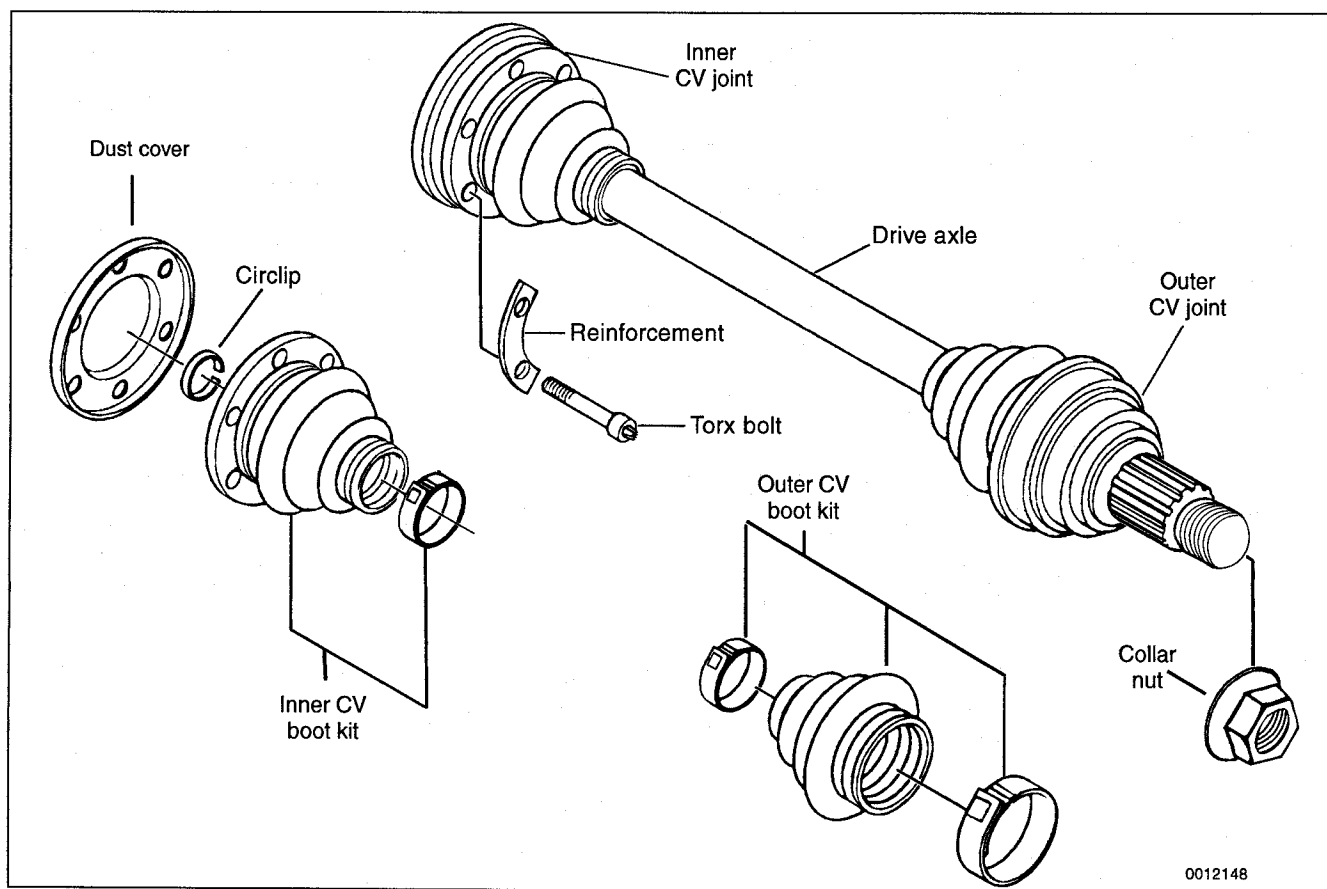

Fig. 10. Drive axle assembly.
The drive axles use constant-velocity (CV) joints on both ends. To replace a CV joint or dust boot, the drive axle must be removed from the car. The components of the drive axle are illustrated in Fig. 10.